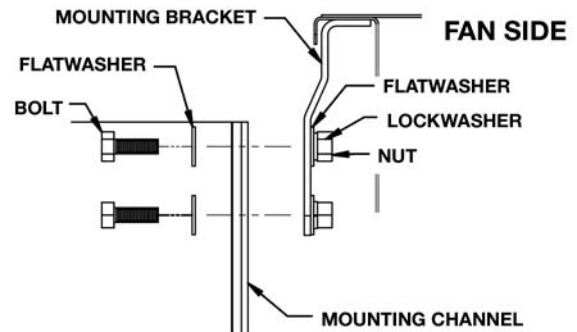

Figure 26 – Attaching Mounting Channel to Mounting Bracket
2. At each hole, attach the mounting channel to the bracket using 3/8" hardware as shown in Figure 26.